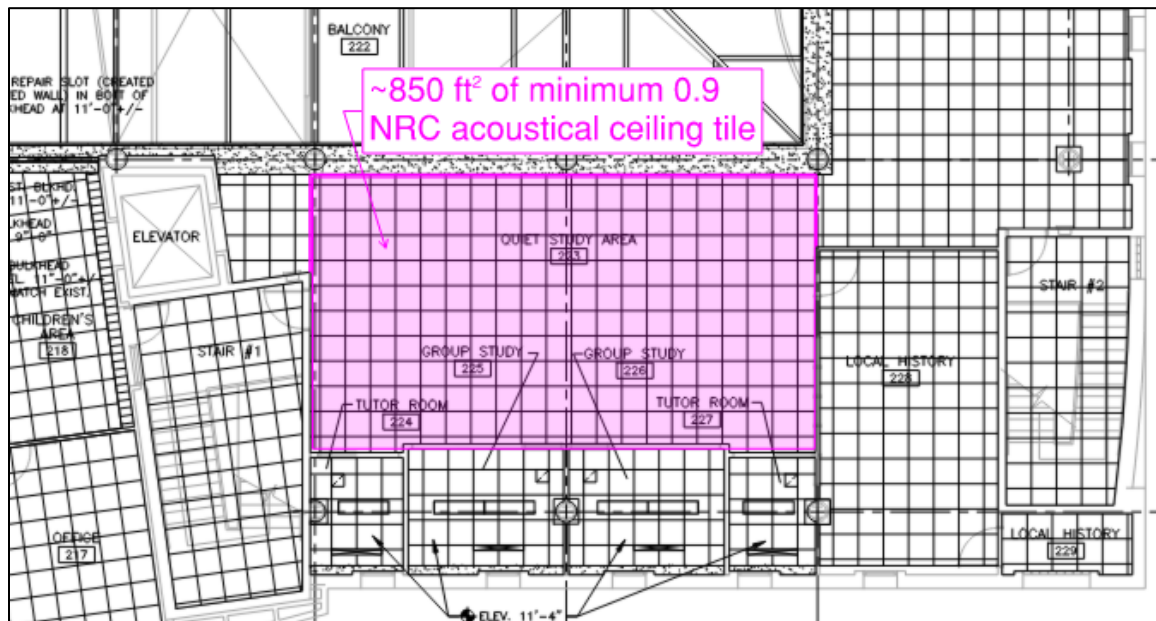

Figure 5: Recommended Ceiling Treatment Locations for Option #2
- On the second floor, above the Quiet Study Area, install approximately 850 ft² of acoustical ceiling tile as shown in Figure 5. Provide a ceiling tile with a minimum Noise Reduction Coefficient (NRC) of 0.90, such as Optima by Armstrong Ceilings or Mars High-NRC by USG.